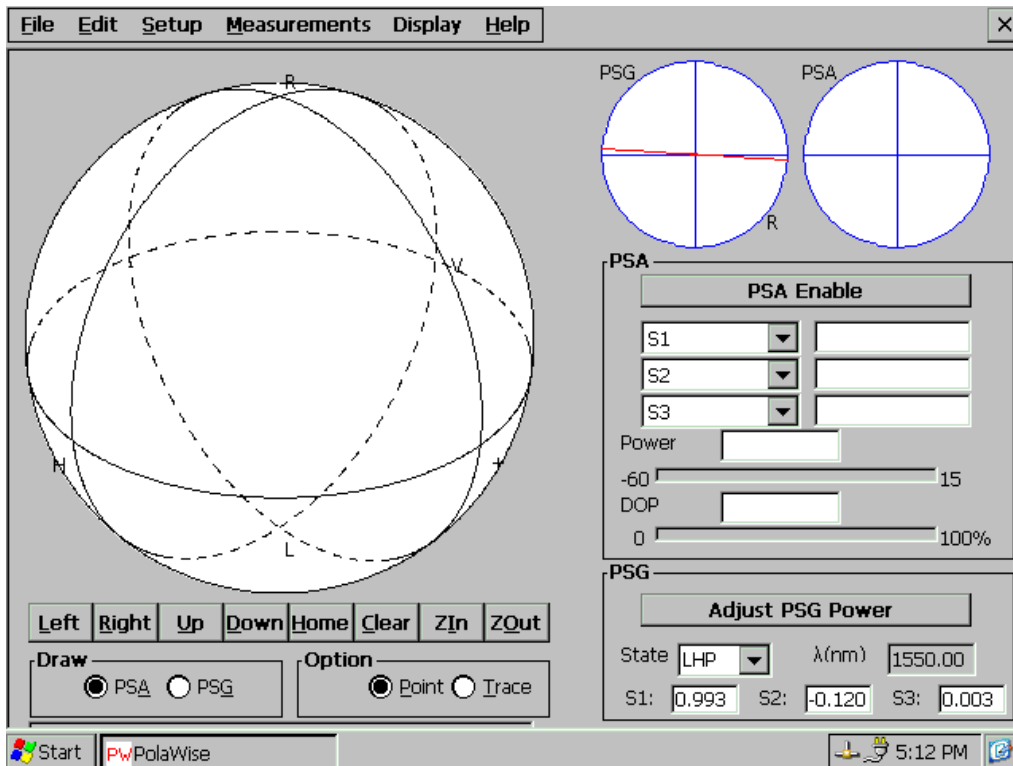

Figure 4 PSGA-101A PolaWise™ software interface screen
8. On power-up, the WinCE system will start and will automatically load the measurement software. After an initialization splash screen the display will show the interface pictured in Figure 4.